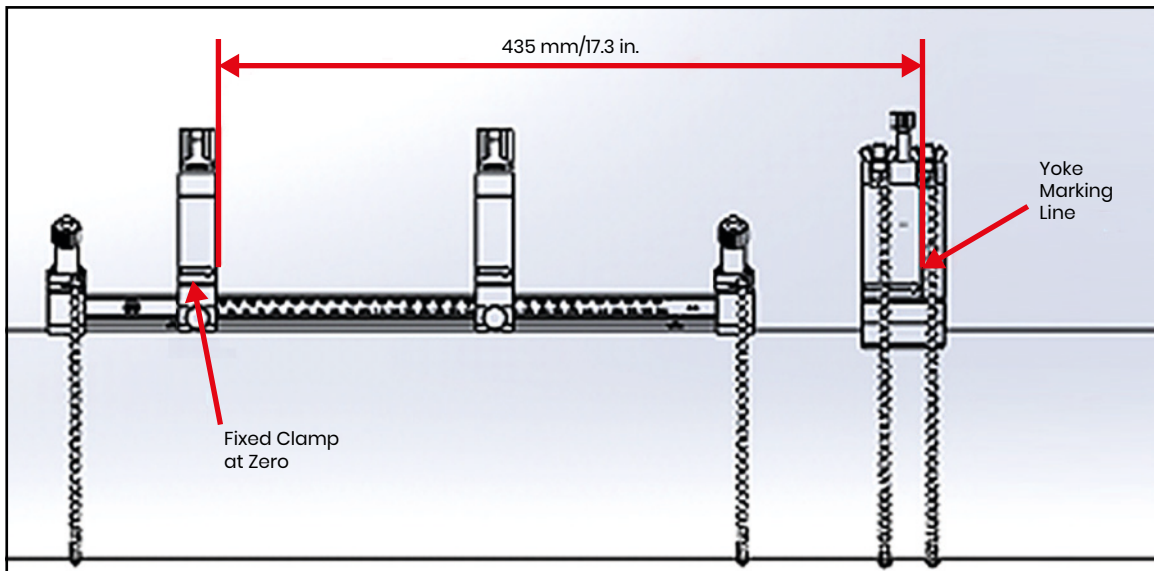

Figure 39: Yoke Set at 435 mm/17.13 in.
6. Place the fixed clamp in the clamping fixture at zero on the scale. As an example, if the required transducer spacing is 435 mm/17.13 in., measure the required 435 mm/17.13 in. distance from the edge of the fixed clamp to the marked line on the yoke (see Figure 39 below).